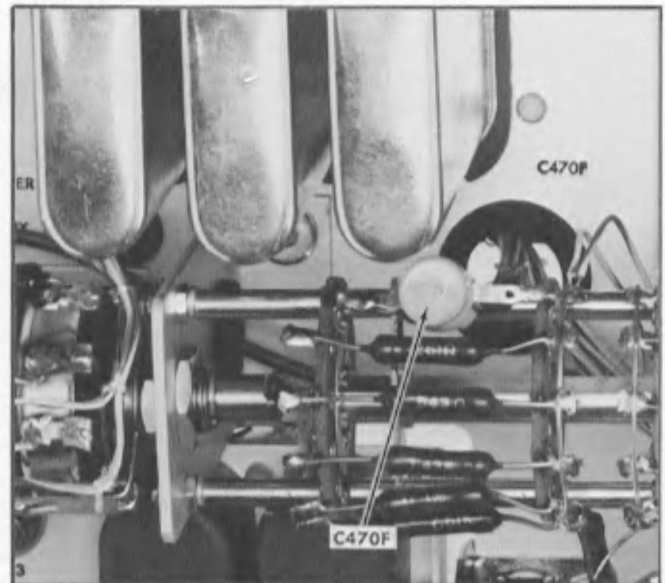

Fig. 6-21. Location of C470F.
- c. Remove the cover from the left side of the Type 561A to gain access to C470F, on the left side front of the Type 2A61. See Fig. 6-21.
- j. Adjust C470F, Fig. 6-21, for the best square wave reponse. Correct adjustment of C470F, is shown in Fig. 6-22A. Incorrect adjustment of C470F is shown in Fig. 6-22B.